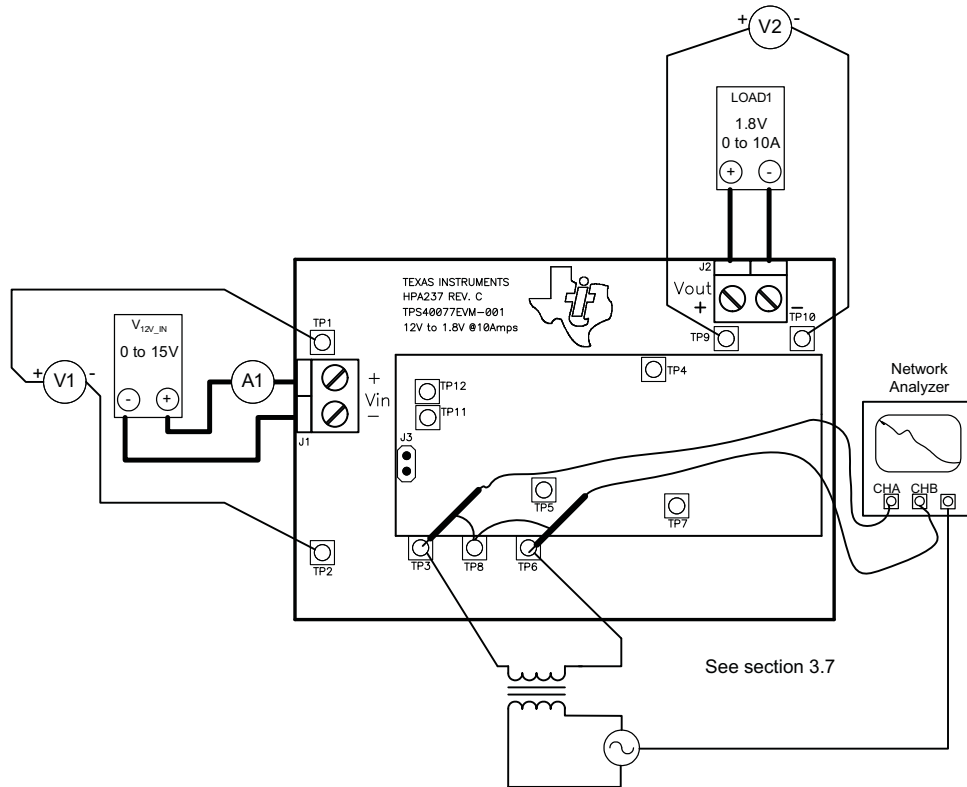

Figure 4. Control Loop Measurement Setup
1. Connect 1 kHz–1 MHz isolation transformer to TP3 and TP6 as shown in Figure 4
2. Connect input-signal amplitude-measurement probe (channel A) to TP3 as shown in Figure 4
3. Connect output-signal amplitude measurement probe (channel B) to TP6 as shown in Figure 4
4. Connect ground lead of channel A and channel B to TP8 as shown in Figure 4